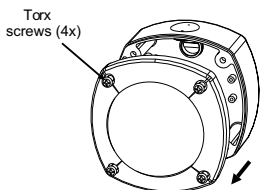

Figure 3 -- Torx screws.
1. Loosen the four Torx screws on the housing cover. Do NOT remove the screws from the cover. (See Figure 3.)